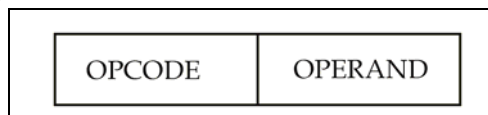

Fig. 2.2
- An instruction is a command given to the microcontroller to perform a given task on specified data. Each instruction has two parts as shown in fig. 2.2.